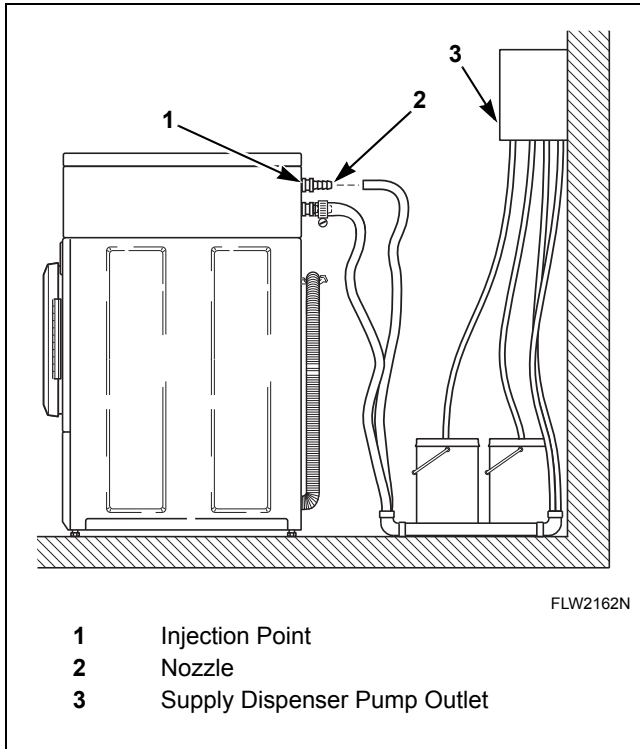

Figure 15
2. Attach nozzles to rear of machine. Connection point located on cabinet, above water mixing valve. Refer to *Figure 15*.
3. Connect supply hoses to nozzles and secure with hose clamps (obtain locally). Refer to *Figure 15*.